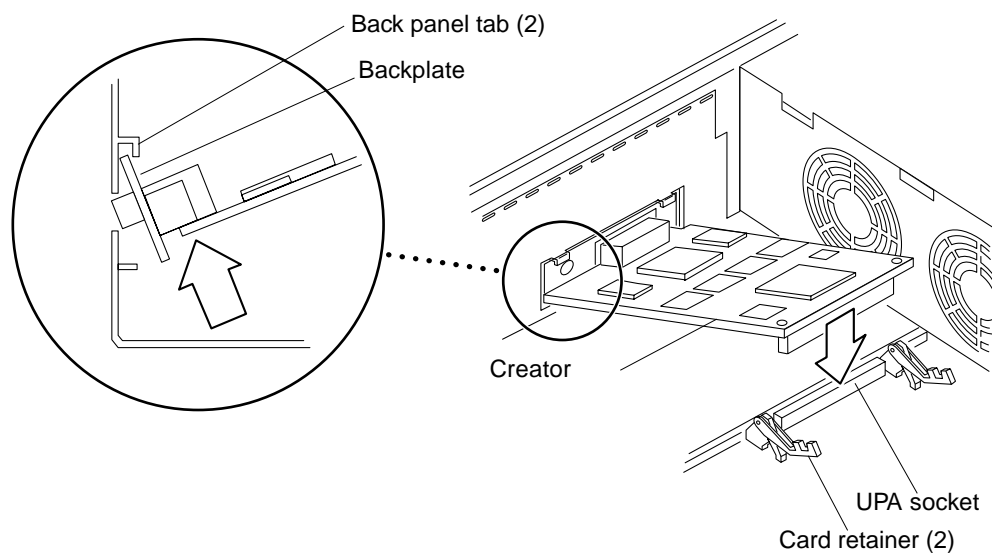

Figure 3-12 Replacing the Creator Board
1. Verify that both card retainers are pushed back (Figure 3-12).